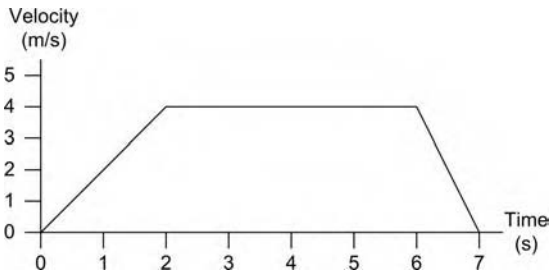

Figure 4.144 Velocity–time graph.
40. Figure 4.144 shows a velocity–time graph for a vehicle, for which the: [A, B1, B2]